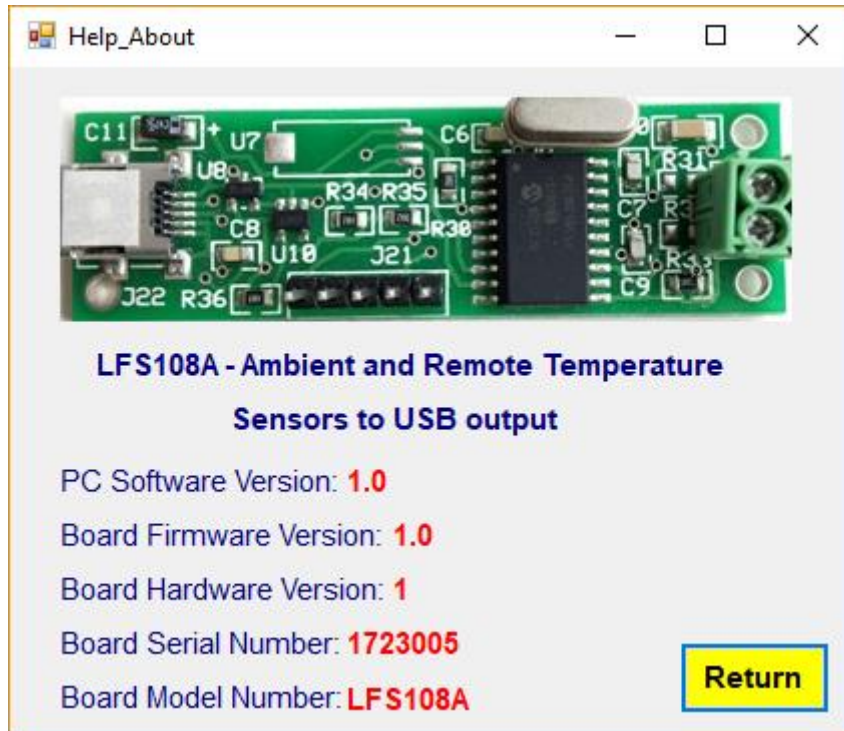

Figure 5 – Typical Help-About Screen
**Help-About** - Clicking the Help-About button will open a new window showing the board picture, firmware version, hardware version, serial number, and the PC software version as shown in Figure 5.